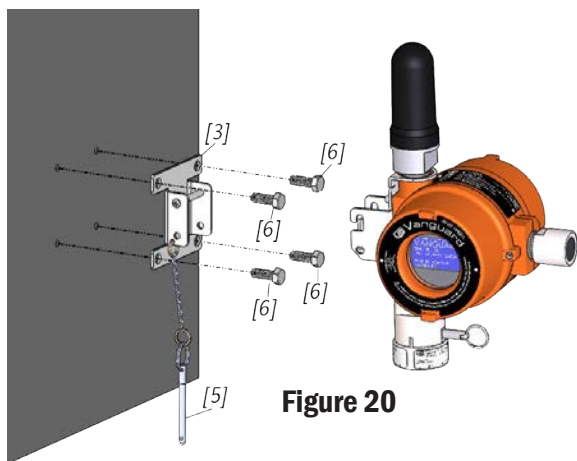

Figure 20
1. Remove hardware from packaging (see Figure 20).